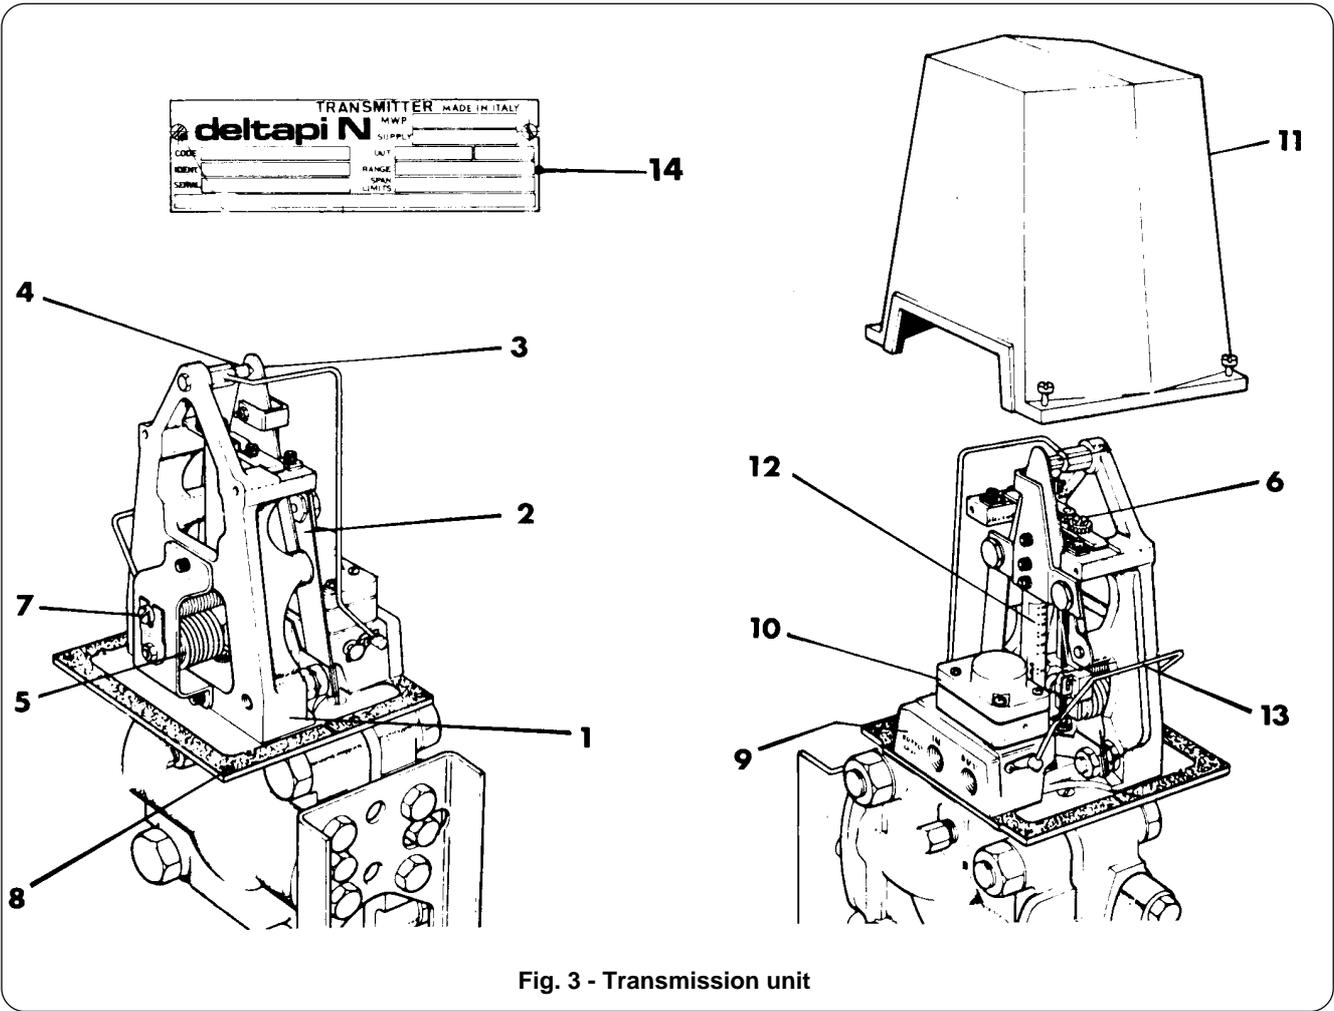

Fig. 3 - Transmission unit
Transmission Unit (Fig. 3)
If this should not be the case adjust the zero screw (7) - Fig. 3 in order to obtain the designed condition.
By means of the vacuum pump, apply a pressure to the positive chamber, read on M_3 , equal to the transmitter calibration span value and check that the output signal, read on M_2 is 15 lb/in² (100 kPa, 1 Kg/cm²) should this not be the case, move the adjuster (6) - fig. 3, in order to obtain the said value. Re-check the transmitter zero using the procedure described previously. Repeat the operations relative to the span and zero settings in order to obtain a satisfactory result within limits of ± 0.06 lb/in² (0.4 kPa, 0.004 Kg/cm²) of the nominal output value.
Check that the output signal, read on M_2 , is 15 lb/in² (100 kPa, 1 Kg/cm²). If this is not the case move the adjuster (6) - fig. 3, in order to obtain the said value.